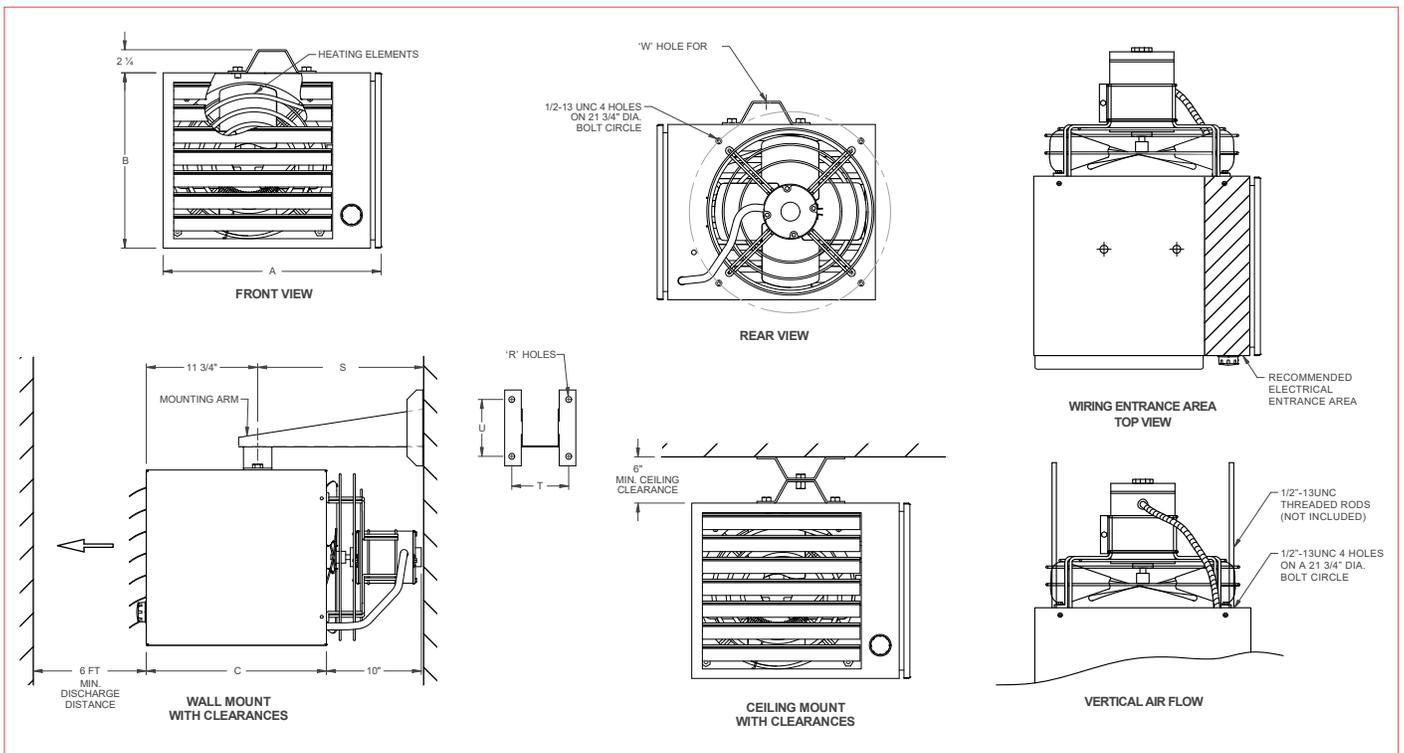

Figure 1 - Mounting Clearance
1. Ensure there are no obstructions that may impede the heater’s air inlet or discharge. Refer to Figure 1 - Mounting Clearance, for minimum clearances.
6. The heater is CSA approved to operate with vertical down flow or horizontal air flow discharge. Refer to Figure 1 - Mounting Clearance and Table 2 - Installation Height and Heater Weight for vertical down flow and horizontal air flow mounting recommendations.
3. The control cabinet of the heater is constructed to EEMAC 12 standards and as such, we are not permitted to supply knockouts. After selection of the conductor and conduit entrance sizes, punch the appropriate hole into the control cabinet. We recommend the hatched area indicated in Figure 1 - Mounting Clearances "*Wiring Entrance Area - Top View*", page 3 be used for ease of internal electrical connection.